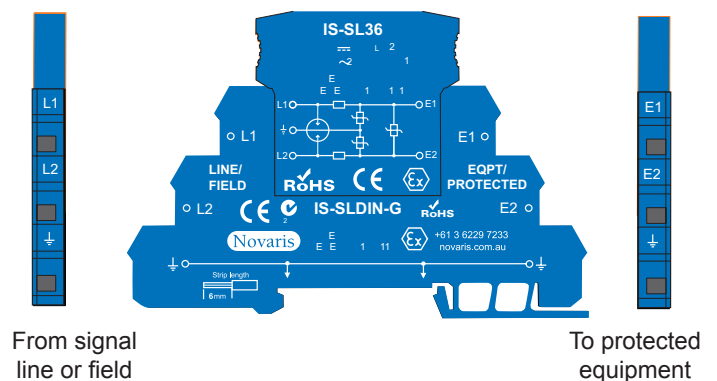

Figure 3: Signal line protectors are connected in series
3.4 Wiring: Incorrect installation of surge protection devices (SPDs) can render them ineffective. The Novaris slimline signal line protectors connect in line (Figure 3). These should be located as close as possible to the equipment requiring protection.